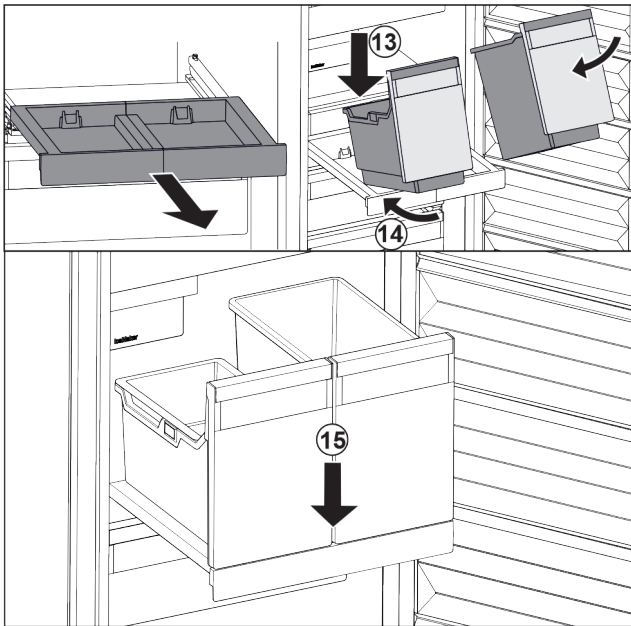

Fig. 99
- ▶ Place the container at an angle on the pull-out board. Fig. 99 (13)
- ▶ Slide in the container at an angle to the back. Fig. 99 (14)
- ▶ Place container at the front. Fig. 99 (15)